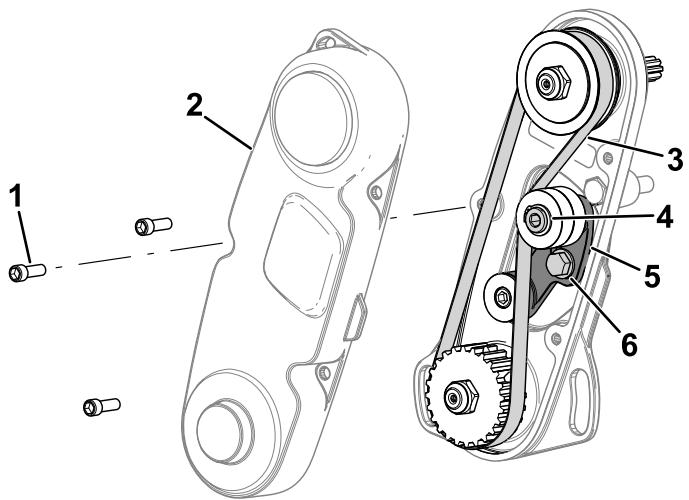

Figure 4
- C. Remove the belt cover to expose the belt (Figure 4).
G. Install the belt and tension the belt by applying 6 to 7 N·m (55 to 60 in-lb) to the idler-arm internal hex shown in Figure 4.